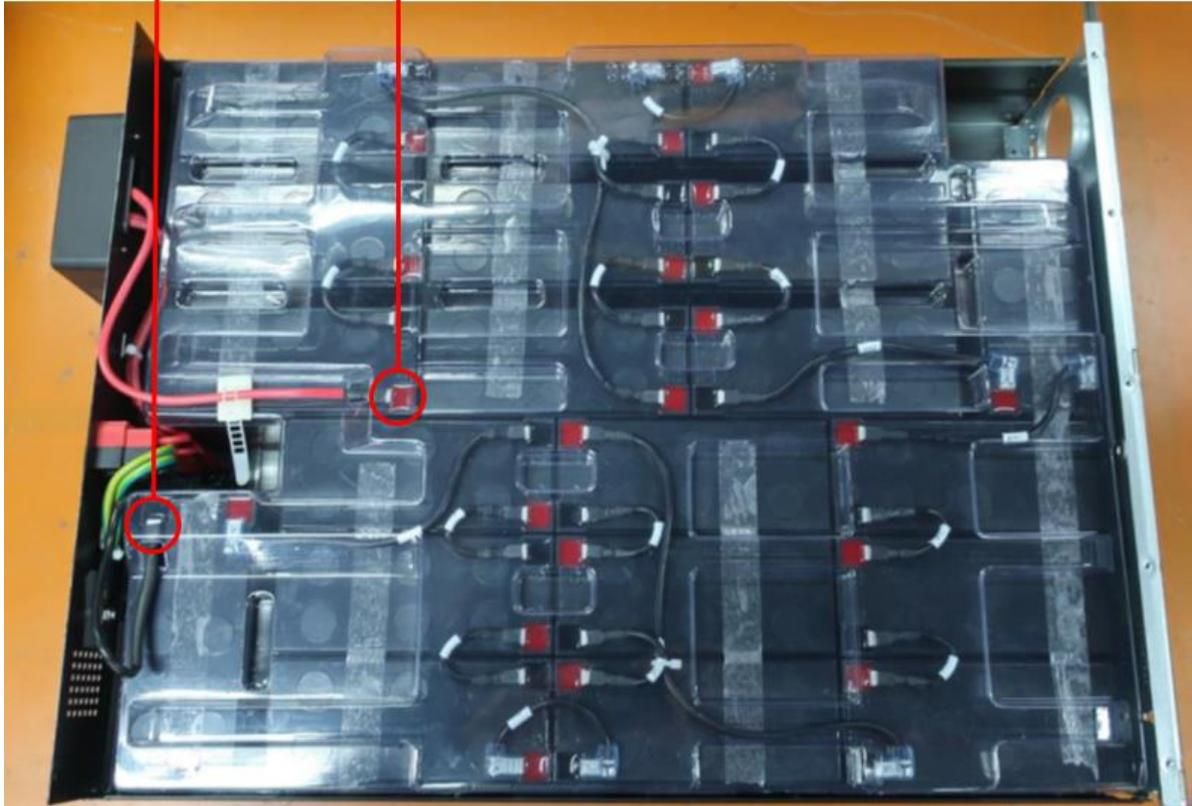

Fig 2-4
2.4). Install the battery plastic cover and connect the battery wire +, then connect the battery wire - refer to Fig 2-4: